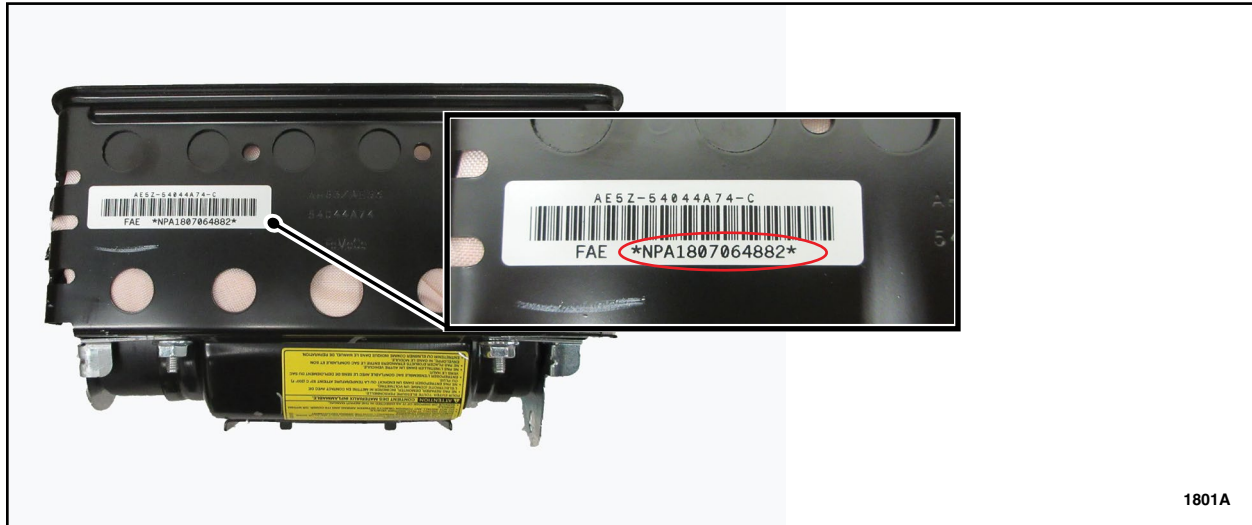

FIGURE 4
1. Record the 13 character serial number of the new airbag module on the repair order. See Figure 4.